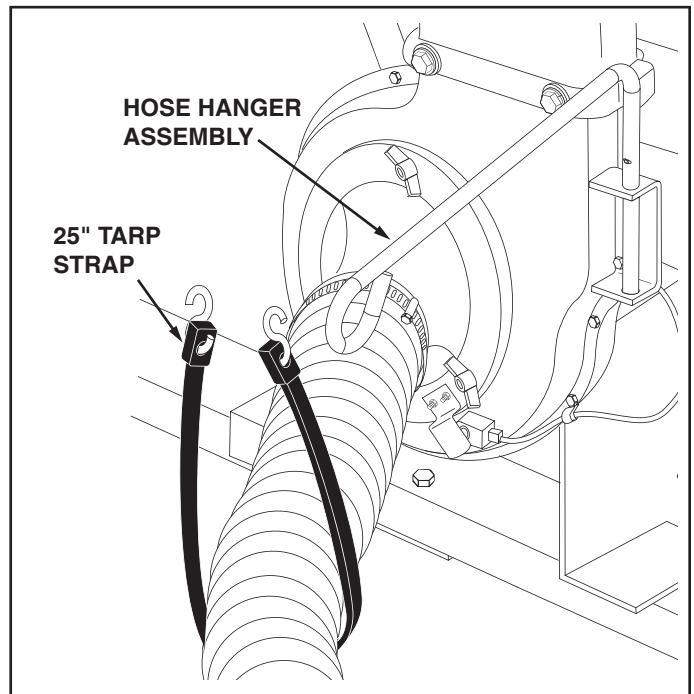

FIGURE 9
16. Loop the 25" tarp strap under the hose. Fasten the hooks to the hose hanger rod assembly. See figure 9.